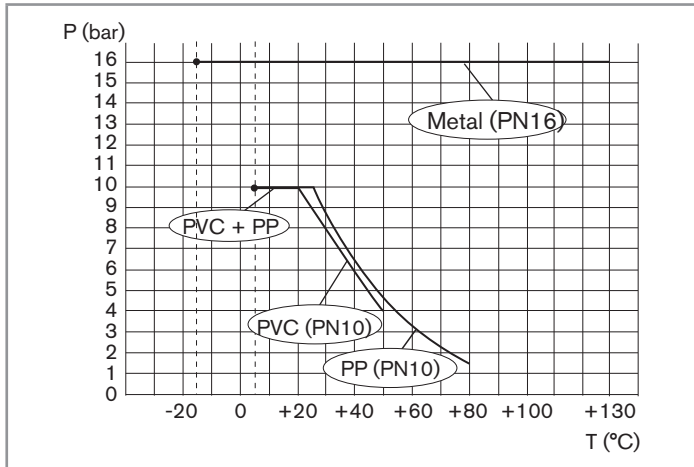

Fig. 2 : Fluid pressure / temperature dependency curves for S022 adapters and fittings
- Take into account the fluid pressure / temperature dependency according to the materials from which the fitting or the adapter (see Fig. 2) and to the measuring device used are made (see the relevant operating instructions).